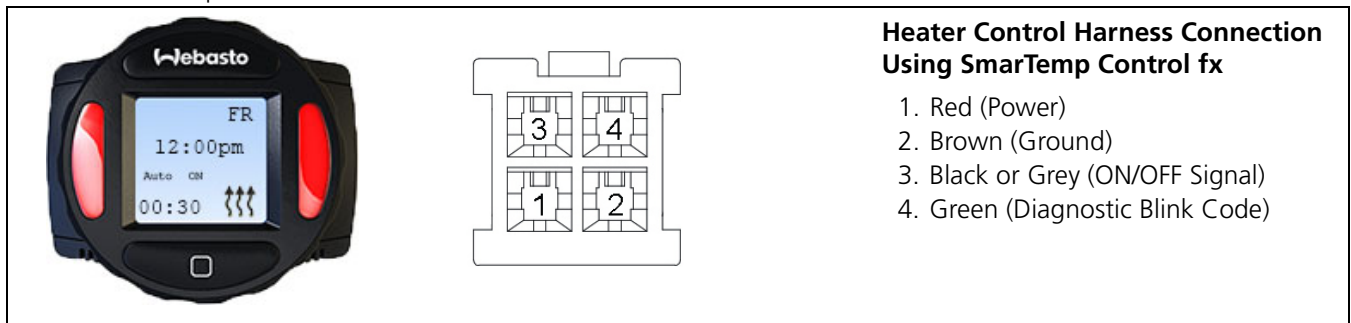

Figure 30: 7-Day, 4 Program SmarTemp Control fx Timer
- Timer, see circuit diagrams in Figures 30, 31, 35, and 36.